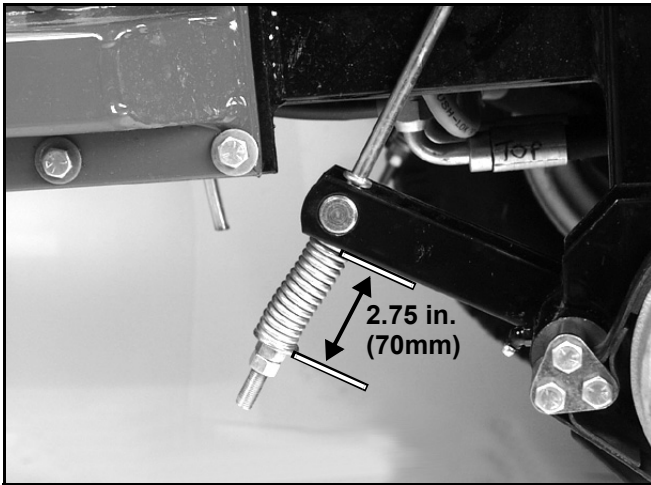

Figure 87
2. Measure the length of the spring. Measurement should be 2.75 in. (70mm) between washers (Figure 87).
3. If adjustment is necessary, loosen the jam nut below the spring and tighten the nut directly below the yoke (Figure 87). Turn the nut until the correct measurement is obtained. Tighten the two nuts together and repeat on opposite side of unit.